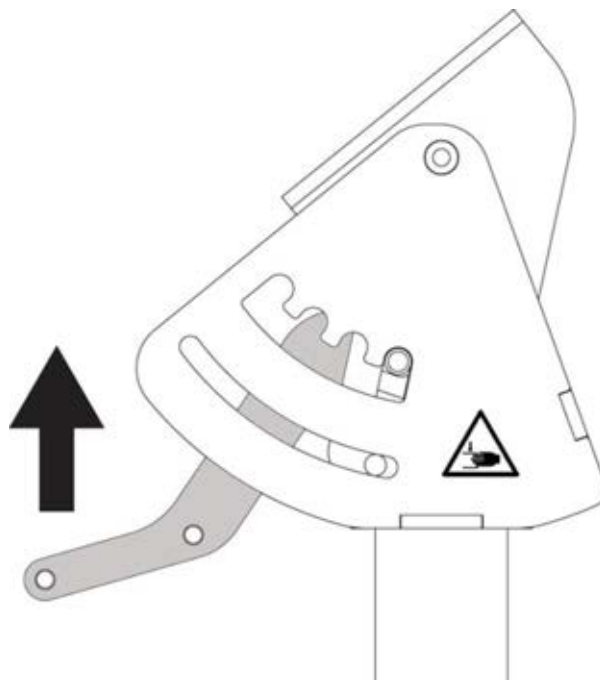

Figure 9 Dispenser Head Angle Adjuster Handle Locked
4. Make sure the **Dispenser Head Angle Adjuster Handle** is locked correctly (refer to Figure 9).